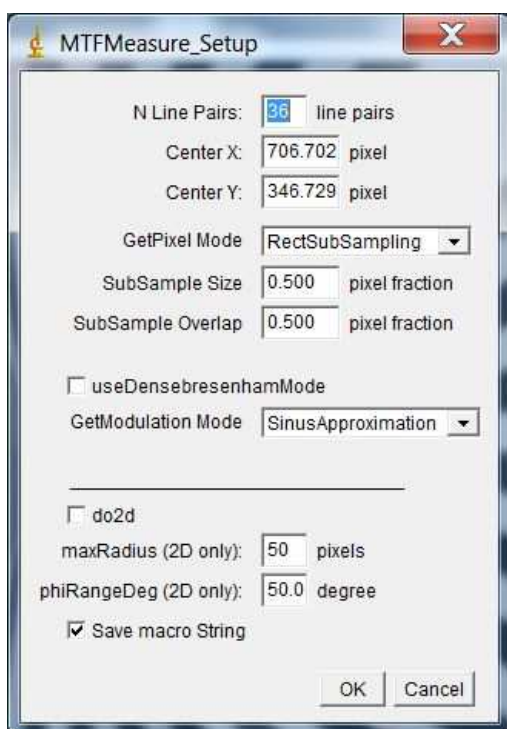

Fig. 3: MTF\_Measure setup dialog
- 3- Check and adapt the settings in the parameter window (Fig. 3) and press OK